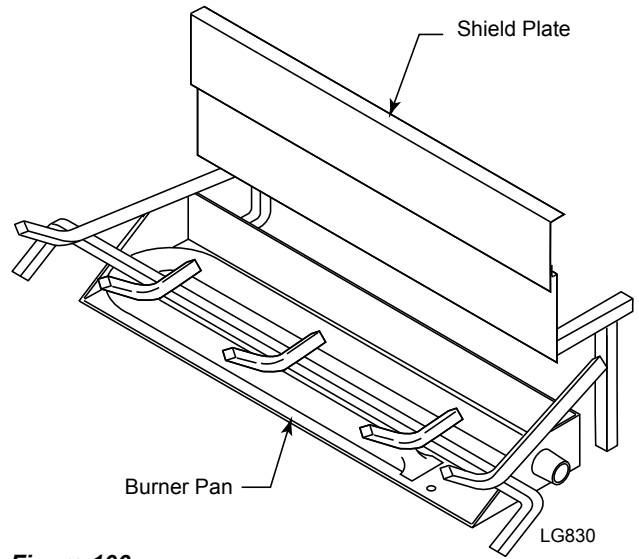

Figure 106 - Slide Shield Plate Behind Burner Pan
1. Slide shield plate behind burner pan. *Figure 106*